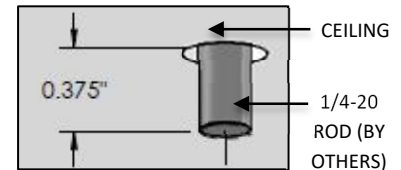

FIG. 4 – GRID CEILING INSTALLATION
3. Install 1/4-20 ROD (by others) at Mounting location as per the Mounting information Table. 1/4-20 ROD should protrude past the bottom of the ceiling surface 0.375" as shown in FIG.4.